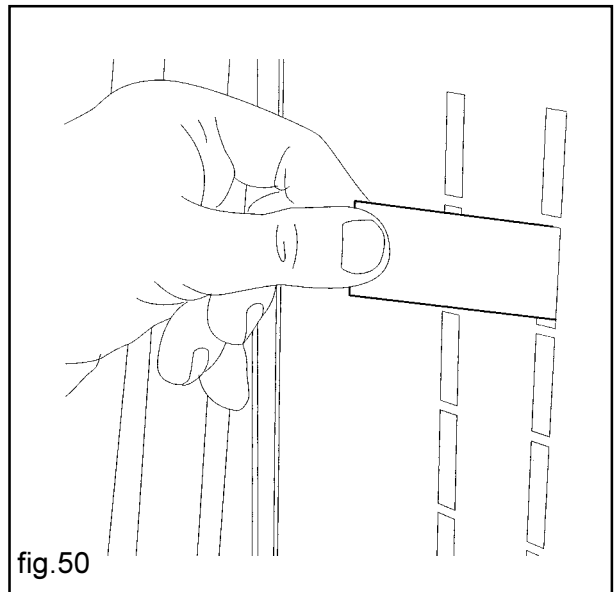

fig.50
- Insert the labels in the order according to the selections used on the vending machine (Fig. 50).